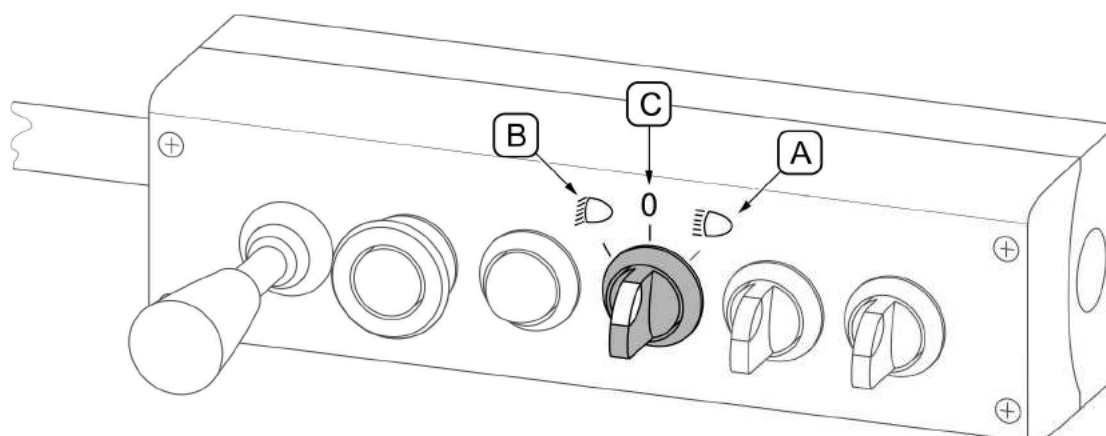

FIG. 4.11 Additional lights switch
Additional lights switch (FIG. 4.11) controls the lights installed on brackets of the plough linkage. Turning switch to the extreme left position (B) switches on low beam. Turning switch to the extreme right position (A) switches on high beam. Turning switch to the central position (C) switches off all additional lights (*except clearance lights, which are switched off by the main switch*).